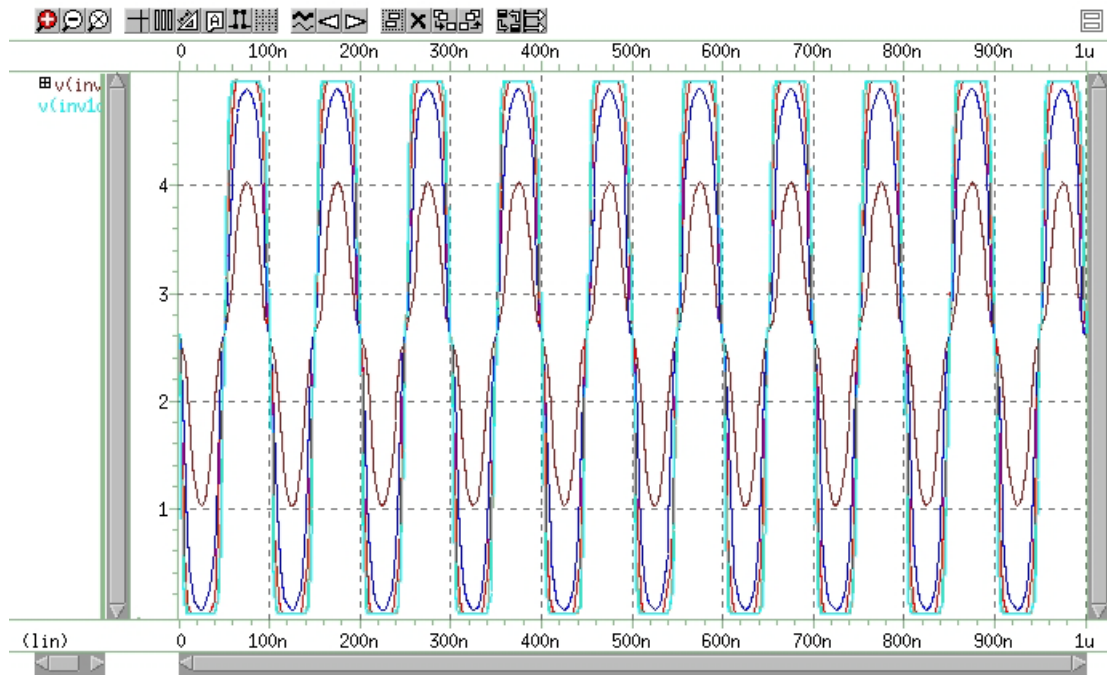
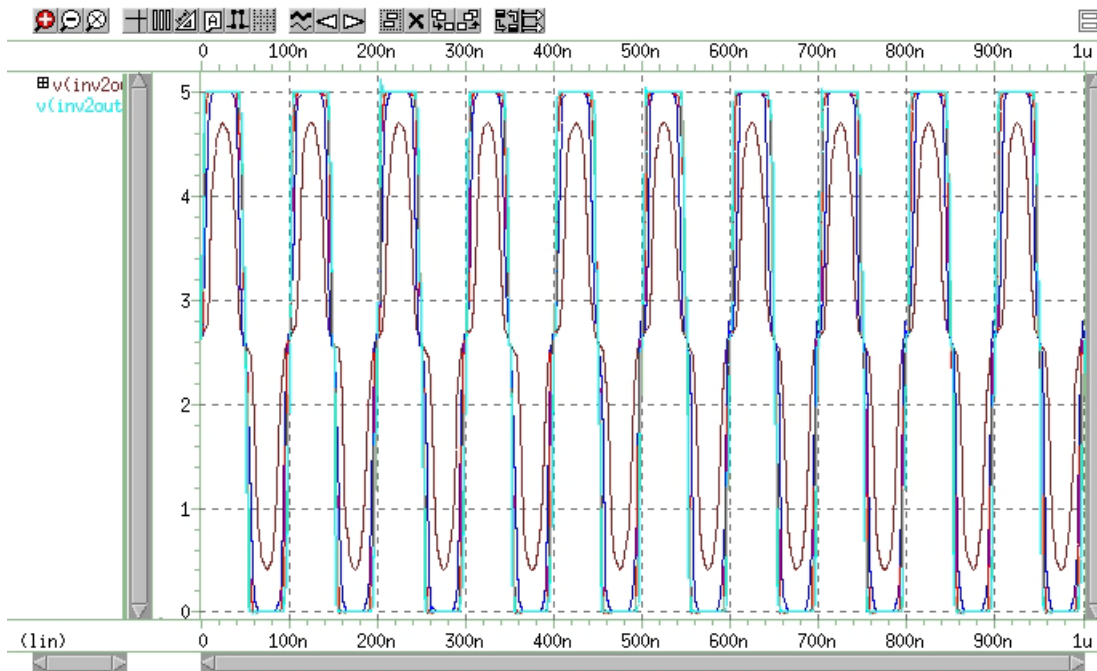

Figure 285 Plot of Voltage on Node inv1out vs. Time
Figure 286 Plot of Voltage on Node inv2out vs. Time
- Repeat Step 6 and Step 7 to view the signals $v(inv1out)$ and $v(inv2out)$ (Figure 285 and Figure 286 on page 1190).